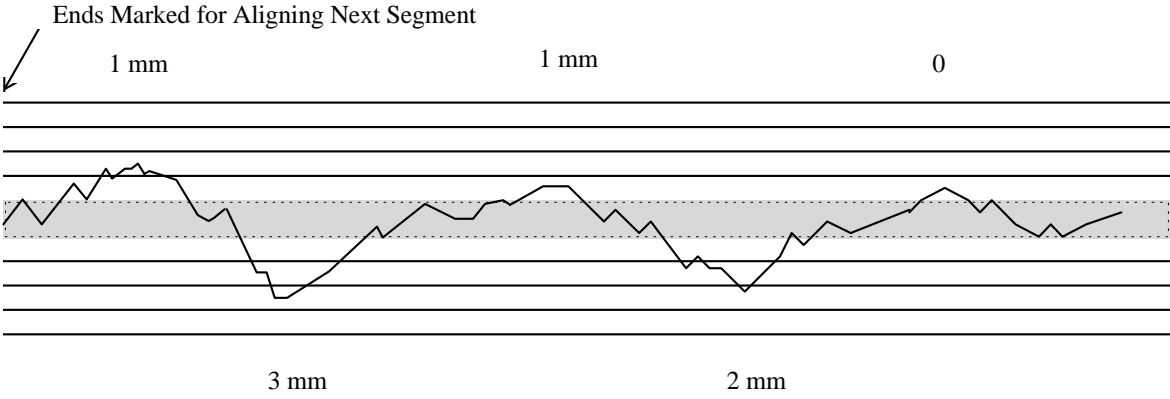

Figure 4. Use of the Blanking Template
- (b) Place the template over the profile plot, sequentially in 300 mm steps, so as to cover as much of the trace as possible with the blanking band, as shown in Figure 4. The template does not necessarily remain horizontal for this analysis. A continuous plot of the profile is not needed, but the minimum length of any plot should be 300 mm.